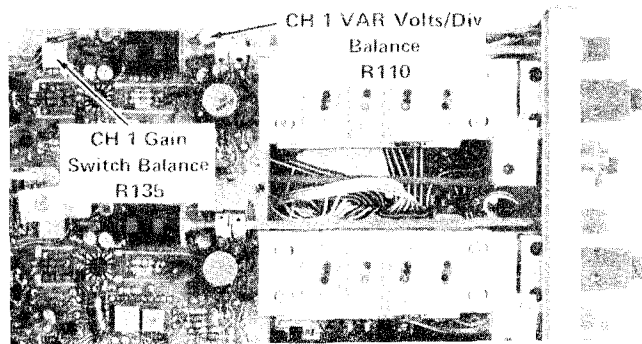

Fig. 5-8. Location of CH 1 Var Volts/Div Balance and Gain Switch Balance adjustments.
e. ADJUST—CH 1 Variable Balance adjustment, R1 10 (see Fig. 5-8) for minimum trace shift when rotating the CH 1 VAR control through its range.
d. ADJUST—CH 1 Gain Switch Bal adjustment, R135 (see Fig. 5-8), for minimum trace shift between 2 mV and 5 mV positions of the CH 1 VOLTS/DIV switch.